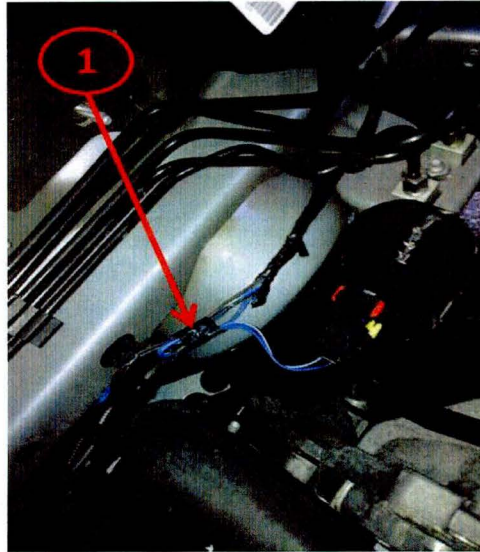

Fig. 2 Purge Solenoid Wire Harness Routing
12. Loosely pull the purge solenoid wire harness straight and create a bend in the harness approximately 10mm (0.40 in. or 3/8 - 7/16 in.) away from the harness retaining clip edge. This bend will also create a natural bend after the current spot tape on the harness. Then, apply 3 - 4 wraps of electrical tape securing the bend to the harness as shown in (Fig. 2).